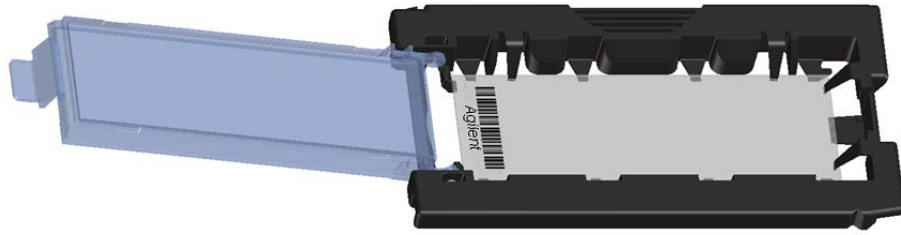

Figure 20 Slide inserted in slide holder – cover open
- c Gently lower the slide into the slide holder. See **Figure 20**.